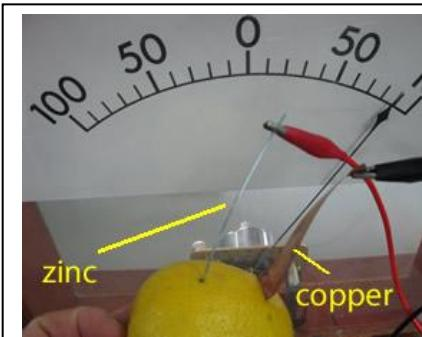

Figure 10 – A lemon battery
Figure 10 shows the outcome of the student's efforts. Using the electrochemical series shown in fig. 5, above, answer the following questions.
f. Consider the results shown in figure 10. They represent a qualitative investigation.